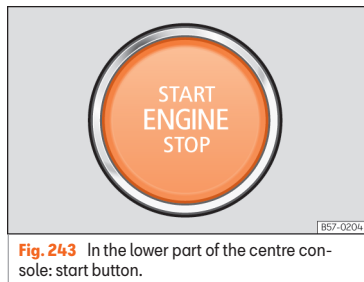

Fig. 244 On the right of the steering column: emergency start.
- Immediately after pushing the starter button, keep the vehicle key next to the right trim of the steering column » **Fig. 244**, as close as possible to the Kessy logo.